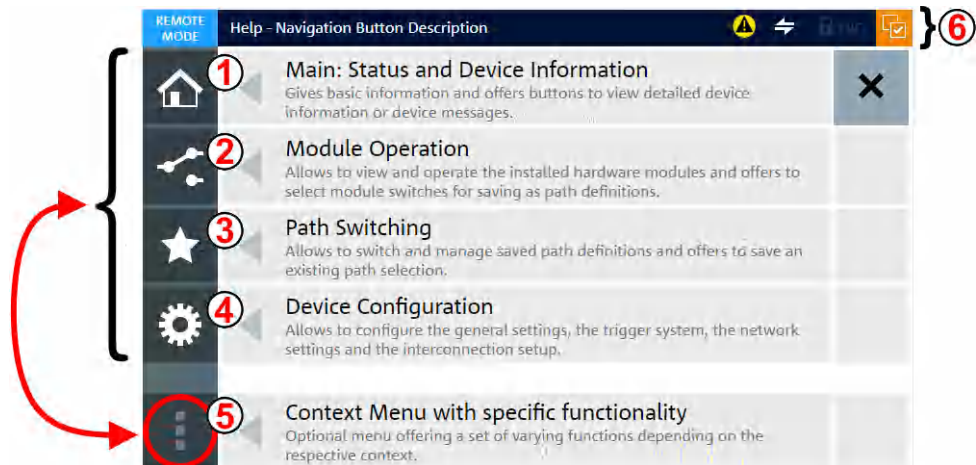

Figure 2-18: Main elements of the graphical user interface (GUI)
The "**Context Menu**" button calls specific functionality for any of the menu items shown above and listed as (1) to (4) in Figure 2-18. Hence, this button is always used **together** with one of the other buttons.
The status bar is shown on top in Figure 2-17 and Figure 2-18. The various indicator icons have the following meanings: